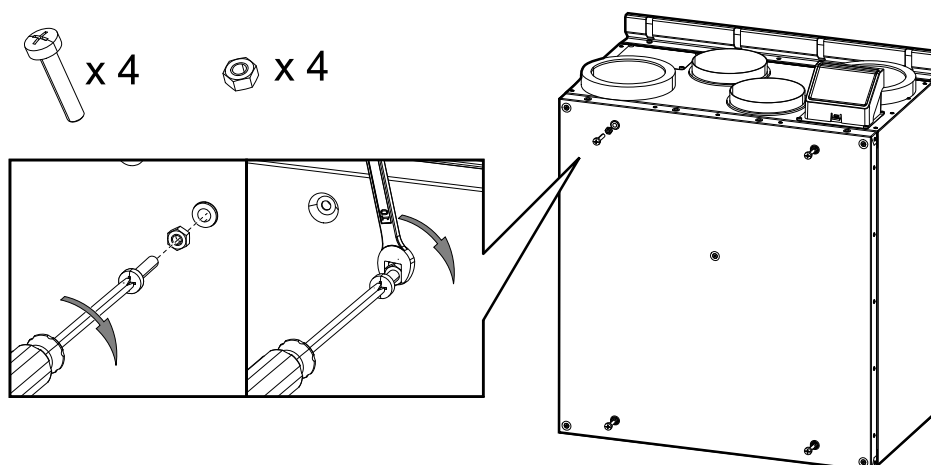

Fig. 15 Installation of bolts
Thickness of wooden blocks should be 25–100 mm. If needed distance is lower than 25 mm, adjust bolts instead of using wooden blocks (see figure 15).
1. Install four M6 bolts into threaded inserts on the unit and lock bolts with hex nuts (figure 15). Bolts protrusion can be adjusted later.